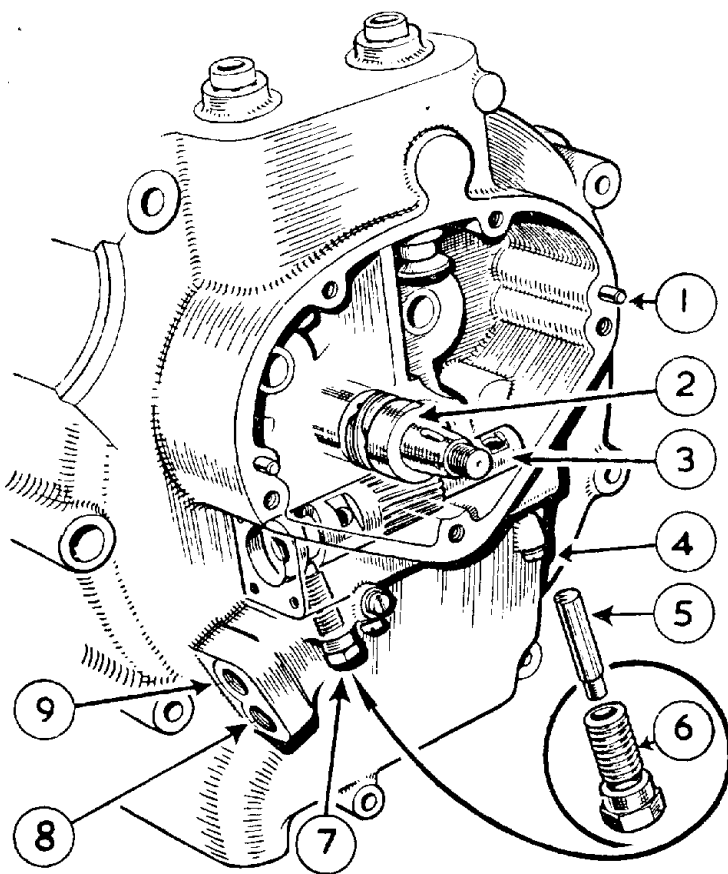

FIG 9
Removing oil pump guide pin and sleeve (6) Fig. 9.
Key to FIG 9
Remove burrs or particles of old gasket from crankcase faces. Take up the oil pump plunger, oil it and insert in crankcase. Clean the interior of screwed body (6) Fig. 9. Oil and insert guide pin (5) as illustrated, the pin should revolve freely. Fit the screwed body and pin with extreme care to ensure the guide pin is located in the annular groove in the pump plunger, using the finger to do so. It may be necessary to revolve the flywheels to locate the pin. The screwed body can be finally tightened with a spanner. *"Failure to observe these important instructions can ruin the pump gear beyond further use".* Now fit the two end caps.
Separating the crankcase. Before attempting to separate the crankcase, the oil pump plunger must be removed by taking off the cap at the rear end of the pump plunger housing, then remove the screwed body (No. 6, Fig. 9), and guide pin (5). Insert a piece of stout wire or wheel spoke in the plunger hole and pull out the pump plunger.